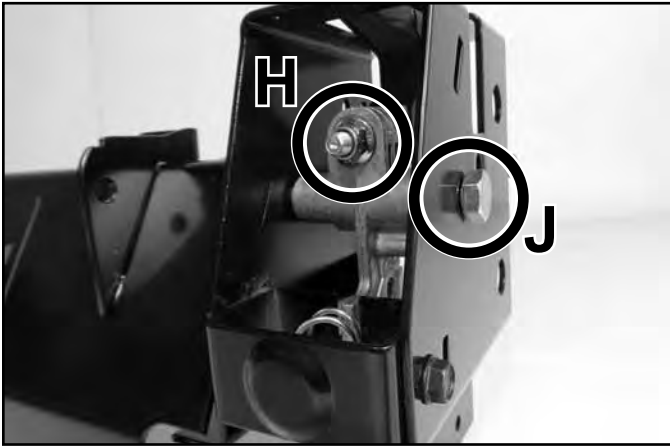

Fig. 020
1. Remove the handle pivot nut and bolt (H), (3) washers, and the control lever (I) from the actuator arm (A).
2. Remove the actuator arm pivot-bolt and nut (J) and the actuator arm assembly (A) from the control box (Fig. 020).